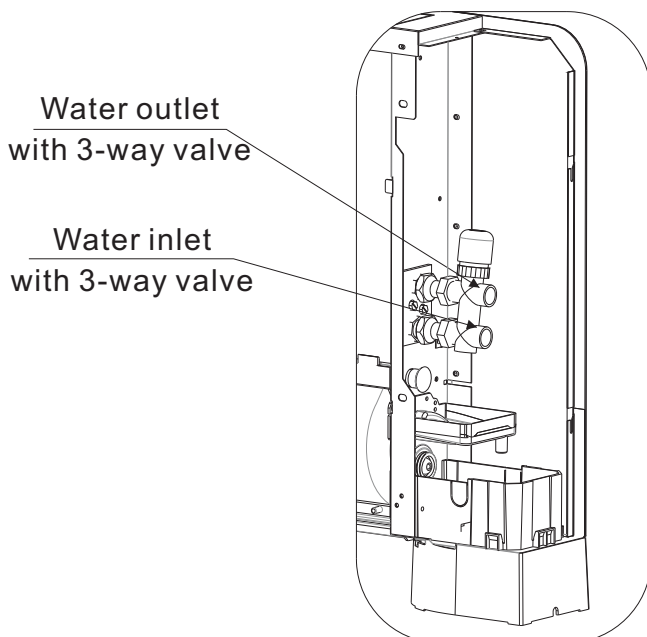

Fig. 13
- Mount the unit, checking that it fits correctly onto the brackets and checking that it is stable (Fig. 13).